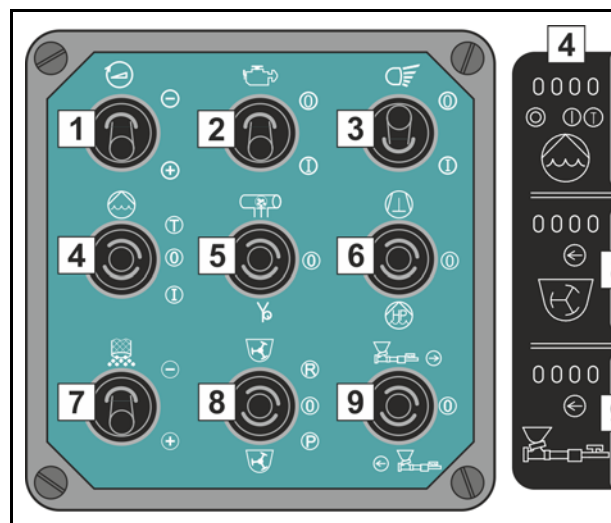

Fig. 561 Local control keypad
Pressing down the switch (6)  on the local control unit (**Fig. 561**) switches a directional valve, which directs the oil flow to the hydraulic motor of the high-pressure pump, and the pump starts pumping immediately.